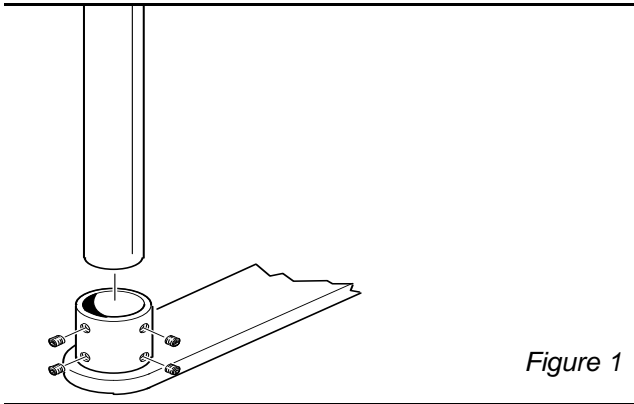

Figure 1
- 2. Install the post on the chair mount bracket (Figure 1).**